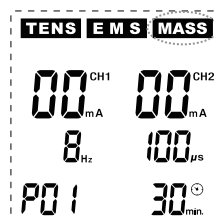

Fig. 7
Press the key (M) in order to select the **MESSAGE mode**. The **MESSAGE mode** is activated and information, as shown in **Fig. 7**, appears on the display: The device is now run in programme 1 (**P01**) of the **MESSAGE mode** (**MASS** flashes at the top on the right of the display). In the **MESSAGE mode**, there are 10 programmes **P01** - **P10** (see programme table, page 24 - 25) which are all pre-programmed. In the **MESSAGE mode**, press the key (P/II) repeatedly in order to first call the programmes **P01** - **P10**. After programme **P10**, the programme order starts from the beginning with **P01**, **P02** etc.